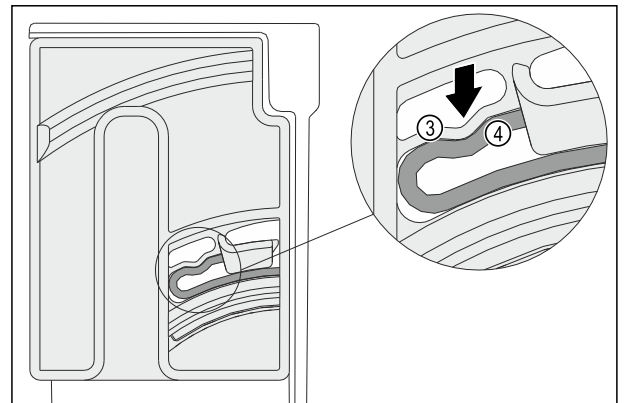

Fig. 147
- ▶ The elastic element Fig. 147 (3) of the turning unit audibly engages in the round shape of the rib Fig. 147 (4).